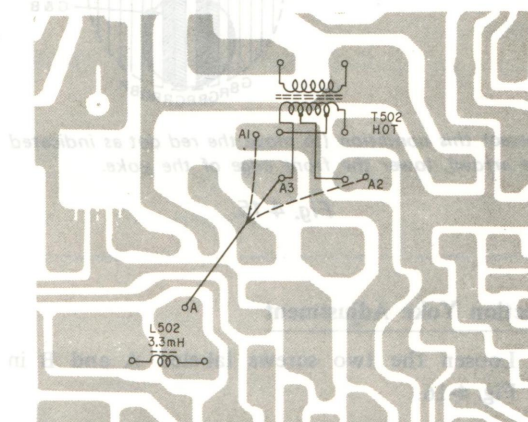

Fig. 4-13.
2. Connect the lead from L502 to each of the connecting points on the VH board. Select the point that yields best convergence. See Fig. 4-13. It will probably be necessary to reset the horizontal static convergence control